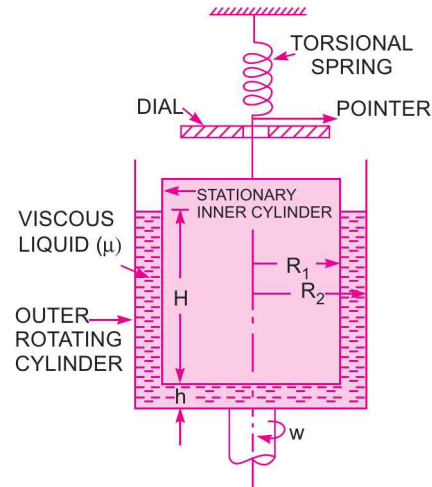

Fig. 9.16 Rotating cylinder viscometer.
9.8.3 Rotating Cylinder Method. This method consists of two concentric cylinders of radii R_1 and R_2 as shown in Fig. 9.16. The narrow space between the two cylinders is filled with the liquid whose viscosity is to be determined. The inner cylinder is held stationary by means of a torsional spring while outer cylinder is rotated at constant angular speed ω . The torque T acting on the inner cylinder is measured by the torsional spring. The torque on the inner cylinder must be equal and opposite to the torque applied on the outer cylinder.